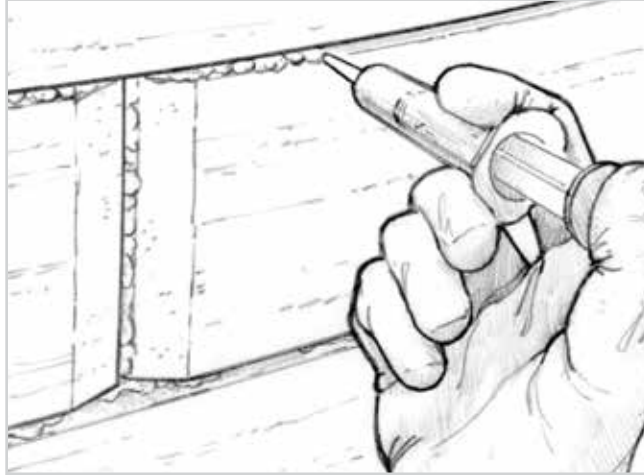

Figure 5-3 *Inject G/flex 655 into the wet-out seam.*
3. Apply a bead of G/flex 655 or 105 Resin-based epoxy thickened with 403 or 406 (mayonnaise consistency) in the seam. Use a syringe or an 810 Caulking Tube to fill the gap with enough epoxy so that a small amount will squeeze out when the splines are pushed in (Figure 5-3).